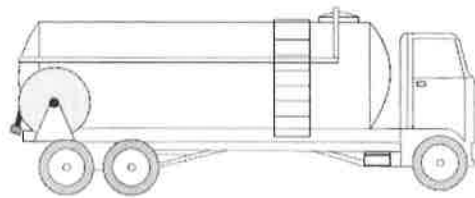

Figure 3
- a) The hose reel of a heating-oil tanker truck is driven by a **hydraulic motor**. This must allow the hose to be unwound, the reel to be stopped for a lengthy period, and the hose to be wound up again. A 4/3-way valve is to be used to obtain this function. (Refer figure 3).